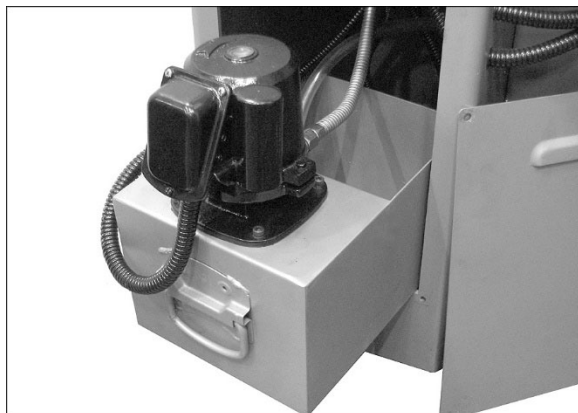

Figure7-7
- Remove access cover at rear of stand near tailstock end, and pull out coolant tank. See Figure 7-7.